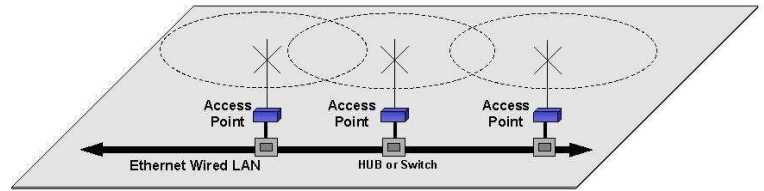

Figure 1: Conventional Access Point Diagram
To increase the wireless network's area of coverage for both indoor and outdoor applications, the ESTeem 195Eg utilizes a custom repeating feature that allows increased coverage areas without the added expense of hard cabling or adding an additional point to point radio link. With a conventional IEEE 802.11g or 802.11b Access Point (AP) network, all of the APs have to be interfaced to a common network either by hardwire, see Figure 1, or a separate, dedicated RF backbone. The Model 195Eg can create this RF backbone, bridge Ethernet networks connected to the wired Ethernet port and provide the wireless canopy for 802.11 clients simultaneously.